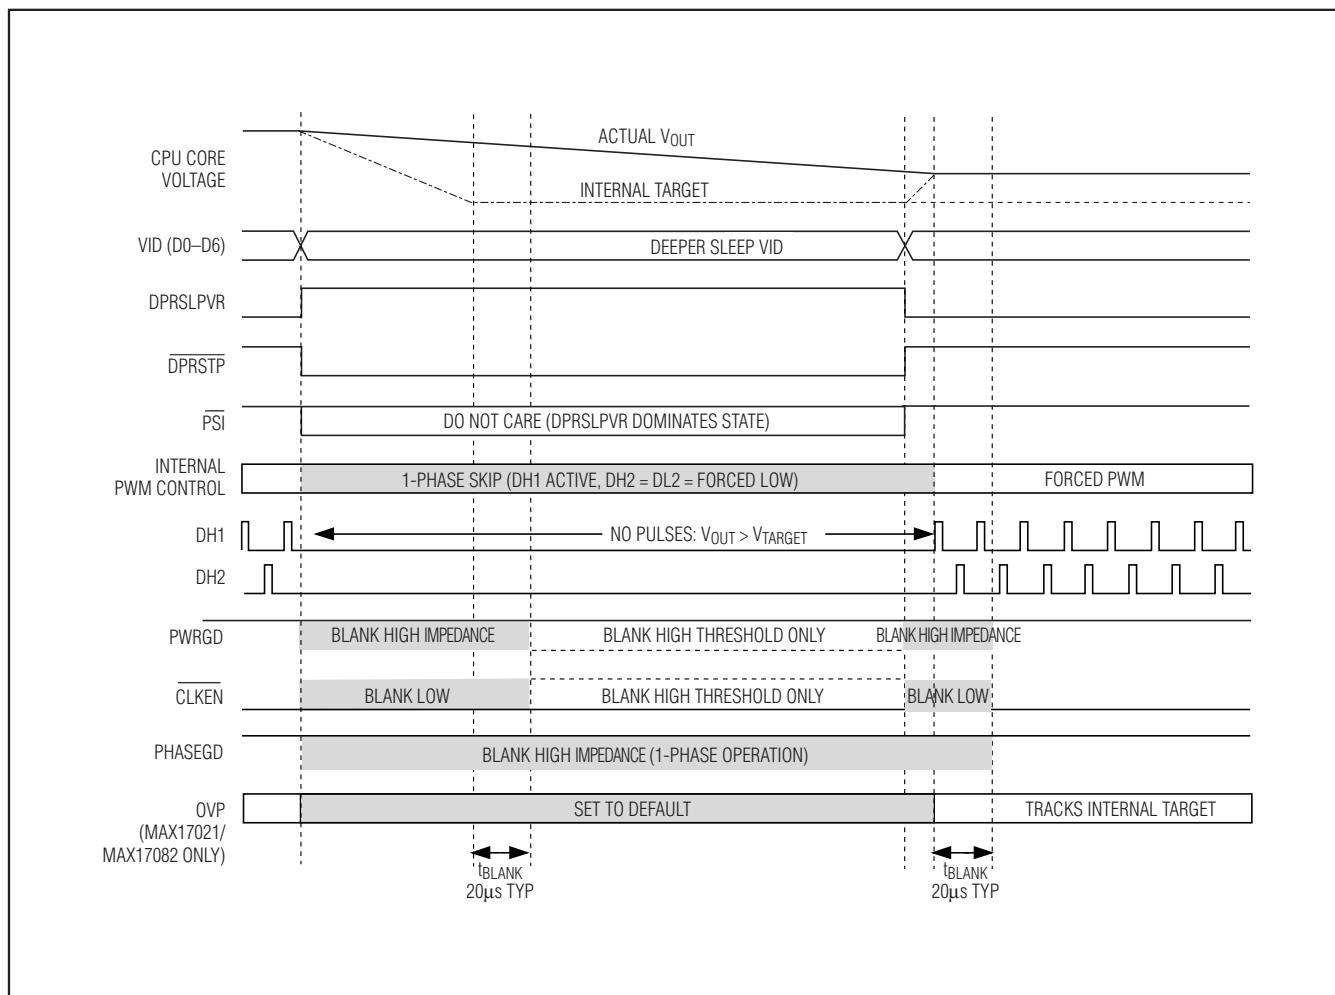

Figure 5. C4E (C4 Early Exit) Transition
When DPRSLPVR goes high, the MAX17021/MAX17082/MAX17482 immediately disable phase 2 (DH2 and DL2 forced low), blank PHASEGD high impedance, and enter pulse-skipping operation (see Figures 5 and 6). If the VIDs are set to a lower voltage setting, the output drops at a rate determined by the load and the output capacitance. The internal target still ramps as before, and PWRGD remains blanked high impedance until 20µs after the output voltage reaches the internal target.
- **Fast C4E Deeper Sleep Exit:** When exiting deeper sleep (DPRSLPVR pulled low) while the output voltage still exceeds the deeper sleep voltage, the MAX17021/MAX17082/MAX17482 quickly slew (50mV/µs min regardless of RTIME setting) the internal target voltage to the DAC code provided by the processor as long as the output voltage is above the new target. The controller remains in skip mode until the output voltage equals the internal target. Once the internal target reaches the output voltage, phase 2 is enabled. The controller blanks PWRGD, PHASEGD, and CLKEN until 20µs after the transition is completed. See Figure 5.